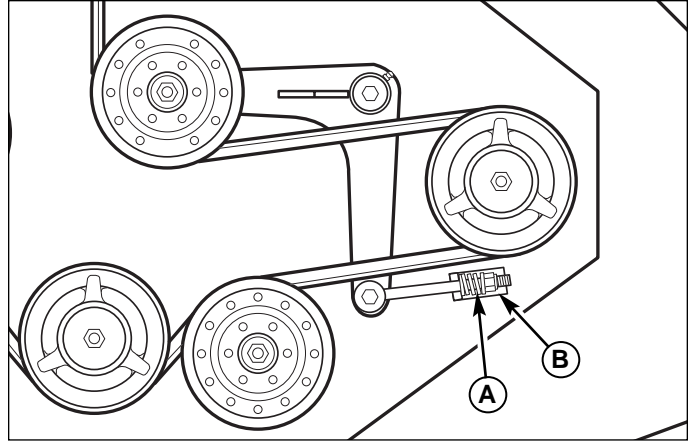

Figure 25. 52" Mower PTO Belt
4. Loosen the spring compression nut (B, Figure 25 & 26) to release the belt tension.
7. Install the drive belt on the PTO pulley, the spindle pulleys and idler pulleys. Tighten the spring compression nut (B, Figure 25 & 26) until the belt tension spring (A, Figure 25 & 26) is 3/4" (1,90cm) long.